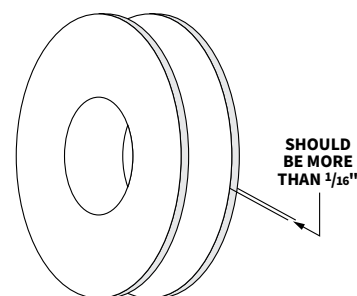

Figure 33: Roller Wheel Inspection
- CHECK THE CONDITION OF THE MAIN ROLLER WHEELS.** Replace if the flange is  $\frac{1}{16}$ " thick or less, and if the roller has excessive foreign debris on the working surface (Figure 33).